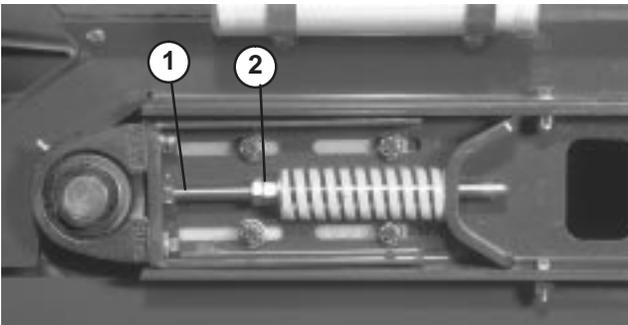

Figure 26
- Loosen jam nuts and nuts on tension rod to release spring tension (Fig. 26).